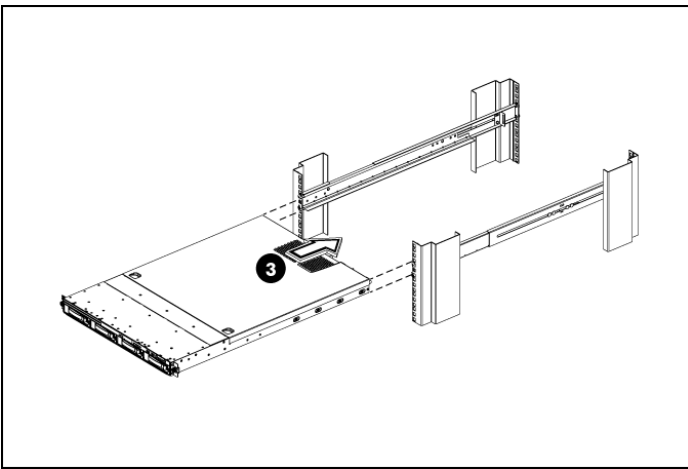

**Figure 1 Attach the rails to the rack columns**
1. Position left and right rack rails at the desired 'U' position in the rack (step 1 in Figure 1).
2. Secure rack rails to the front and back rack columns using screws. Make sure that the shoulders of the screws fit inside the square or round holes of the rack (step 2 in Figure 1).